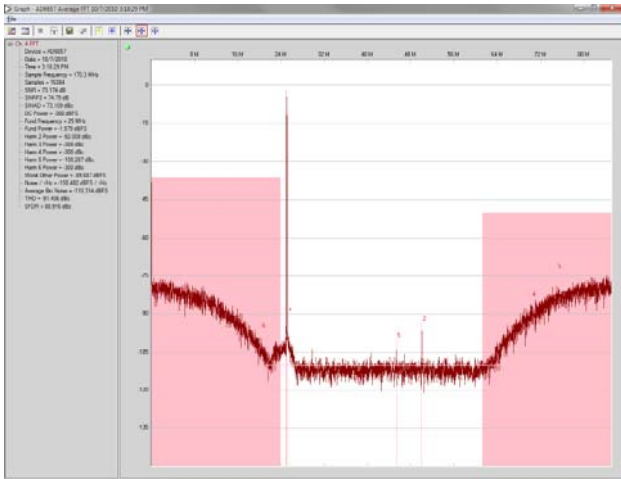

Figure 18. Graph – AD6657 Average FFT Window of VisualAnalog, NSR Enabled
8. The result should show an FFT plot that looks similar to Figure 18.